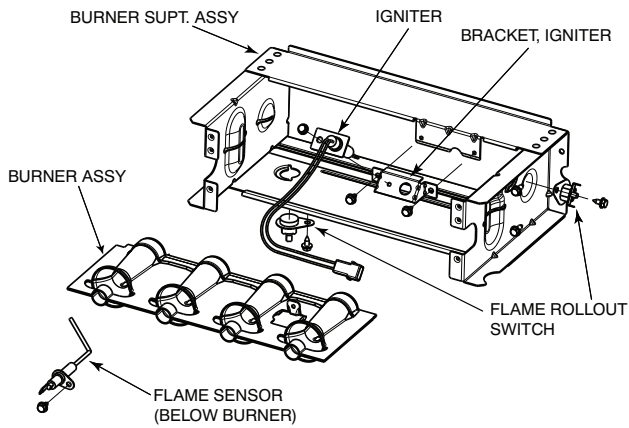

Fig. 3 - Burner Assembly
5. Slide one-piece burner assembly out of slots on sides of burner box. See Fig. 3.